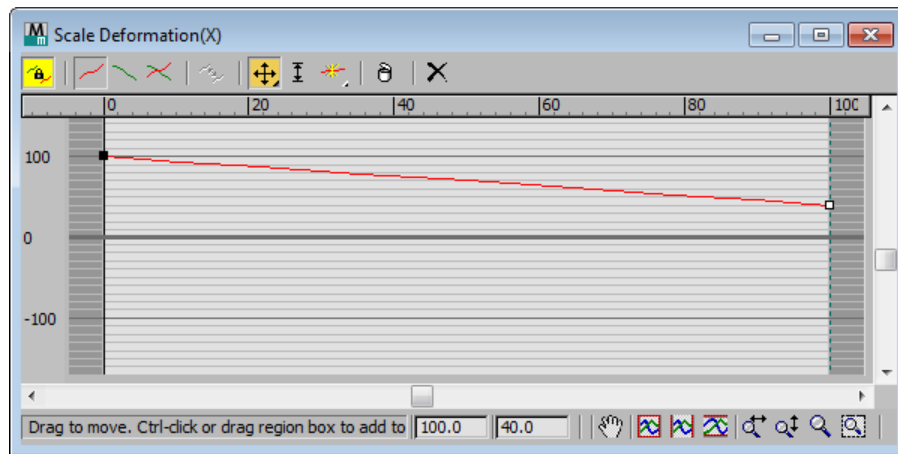

Figure 9-4 The vertex moved in the Scale Deformation(X) dialog box
6. Move the right-hand vertex down by six lines until 40 is displayed in the right-hand text box at the bottom of the dialog box, **Figure 9-4**.